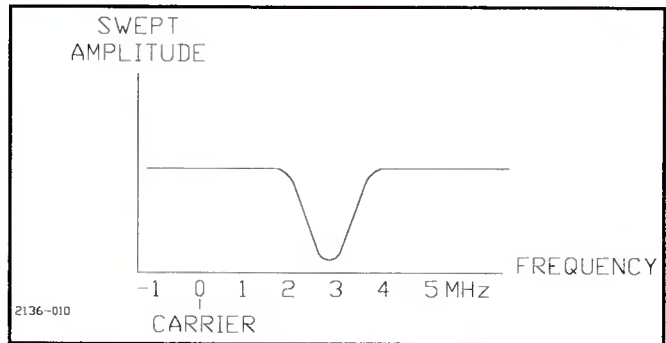

Figure 5-10
l. Set the frequency of the null 3 MHz above carrier using FREQ control. See Figure 5-10.